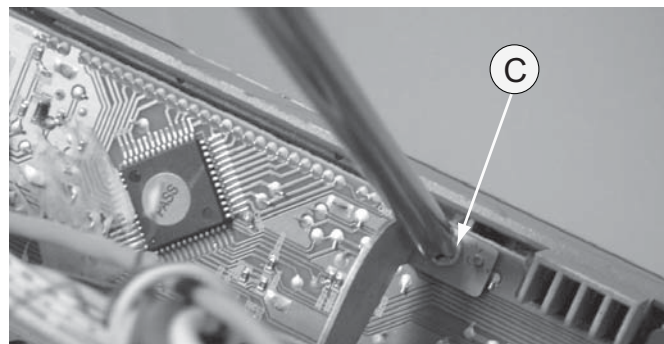

Figure 3
- 1 screw "C" on the inside as show in figure 3